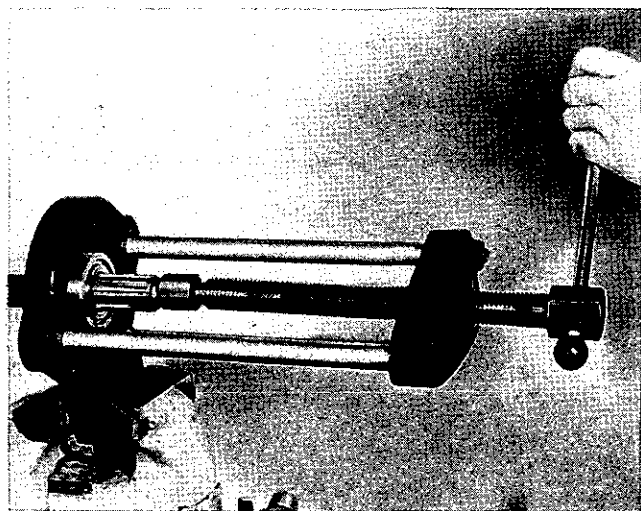

Fig. 5. Extracting Wheel Bearing with special Fixture, Tool No. M.20 S.M.4615.
9. The wheel bearing is next extracted as shown in Fig. 5.